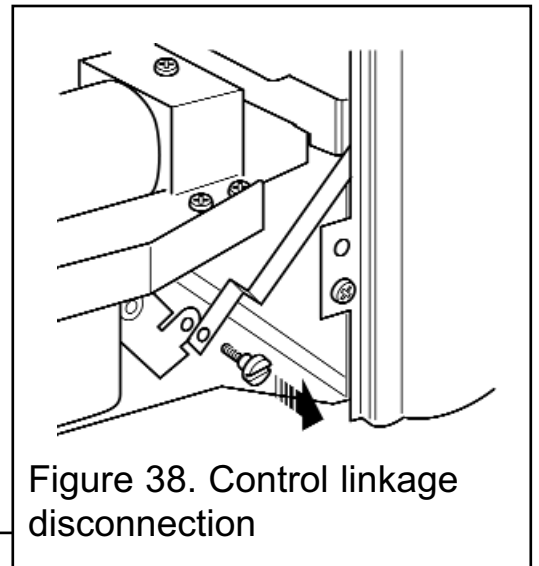

Figure 38. Control linkage disconnection
2. Remove the knurled screw securing the control linking arm to the burner (See figure 38).